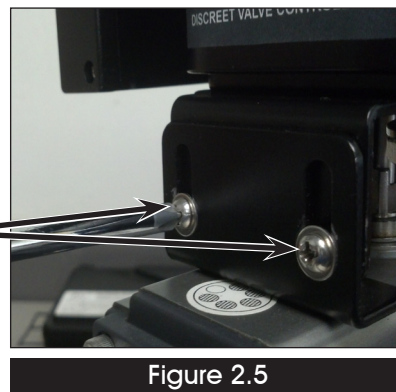

Figure 2.5
5. Fasten the two bottom brackets to the top bracket using the supplied phillips head machine screws and washers (Figure 2.5). Tighten securely.